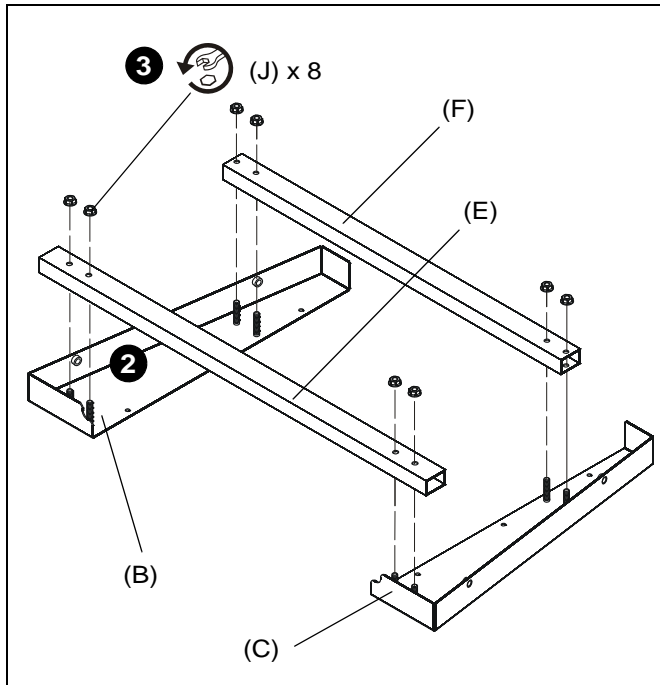

Figure 1
1. Place left wedge plate (B) and right wedge plate (C) on a flat surface with threaded bolts facing up. (See Figure 1)
2. Place front cross bar (E) and rear cross bar (F) on top of wedge plates and insert bolts through corresponding holes on cross bars. (See Figure 1)
3. Install eight 5/16-18" hex nuts (J) over each threaded bolt and tighten until cross bars are secured to wedge plates. (See Figure 1)